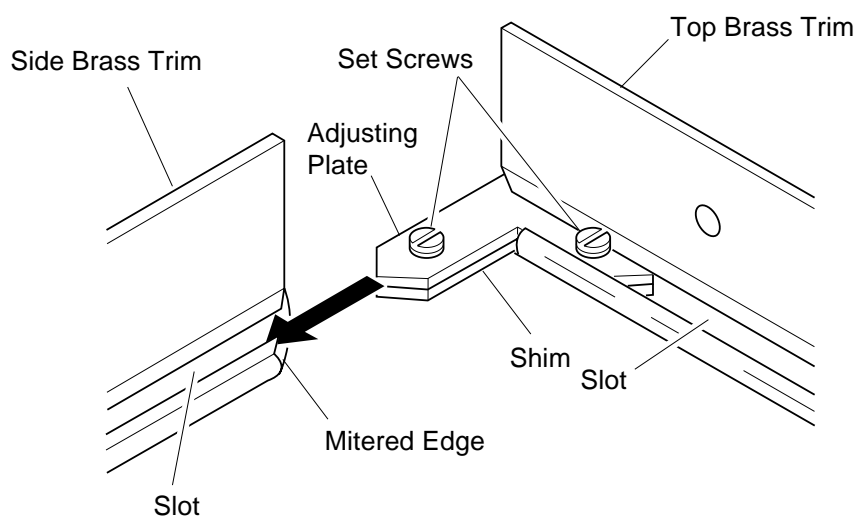

Figure 5 - Assembling Brass Trim
3. Align shim under adjusting plate as shown in Figure 5.
4. Slide one end of adjusting plate/shim in slot on mitered edge of top brass trim (see Figure 5).
5. Slide other end of adjusting plate/shim in slot on mitered edge of side brass trim (see Figure 5).